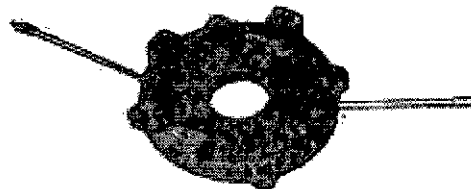

**Figure 6-46**
1. Inspect the drive discs for distorted or bent edges. (Figure 6-46) Inspect for worn mounting holes. Replace all defective discs as necessary.